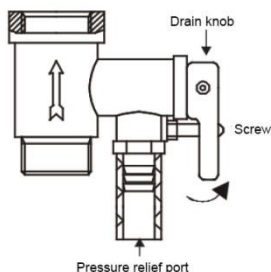

Fig 5
6. To drain the internal tank, use the safety relief valve: unscrew the screw of drain knob on the safety relief valve and move the drain knob to the up position — the hot water outlet tap must be open and the cold water inlet tap must be closed (see Fig. 5). Water will start flowing from the pressure relief port of the safety relief valve.